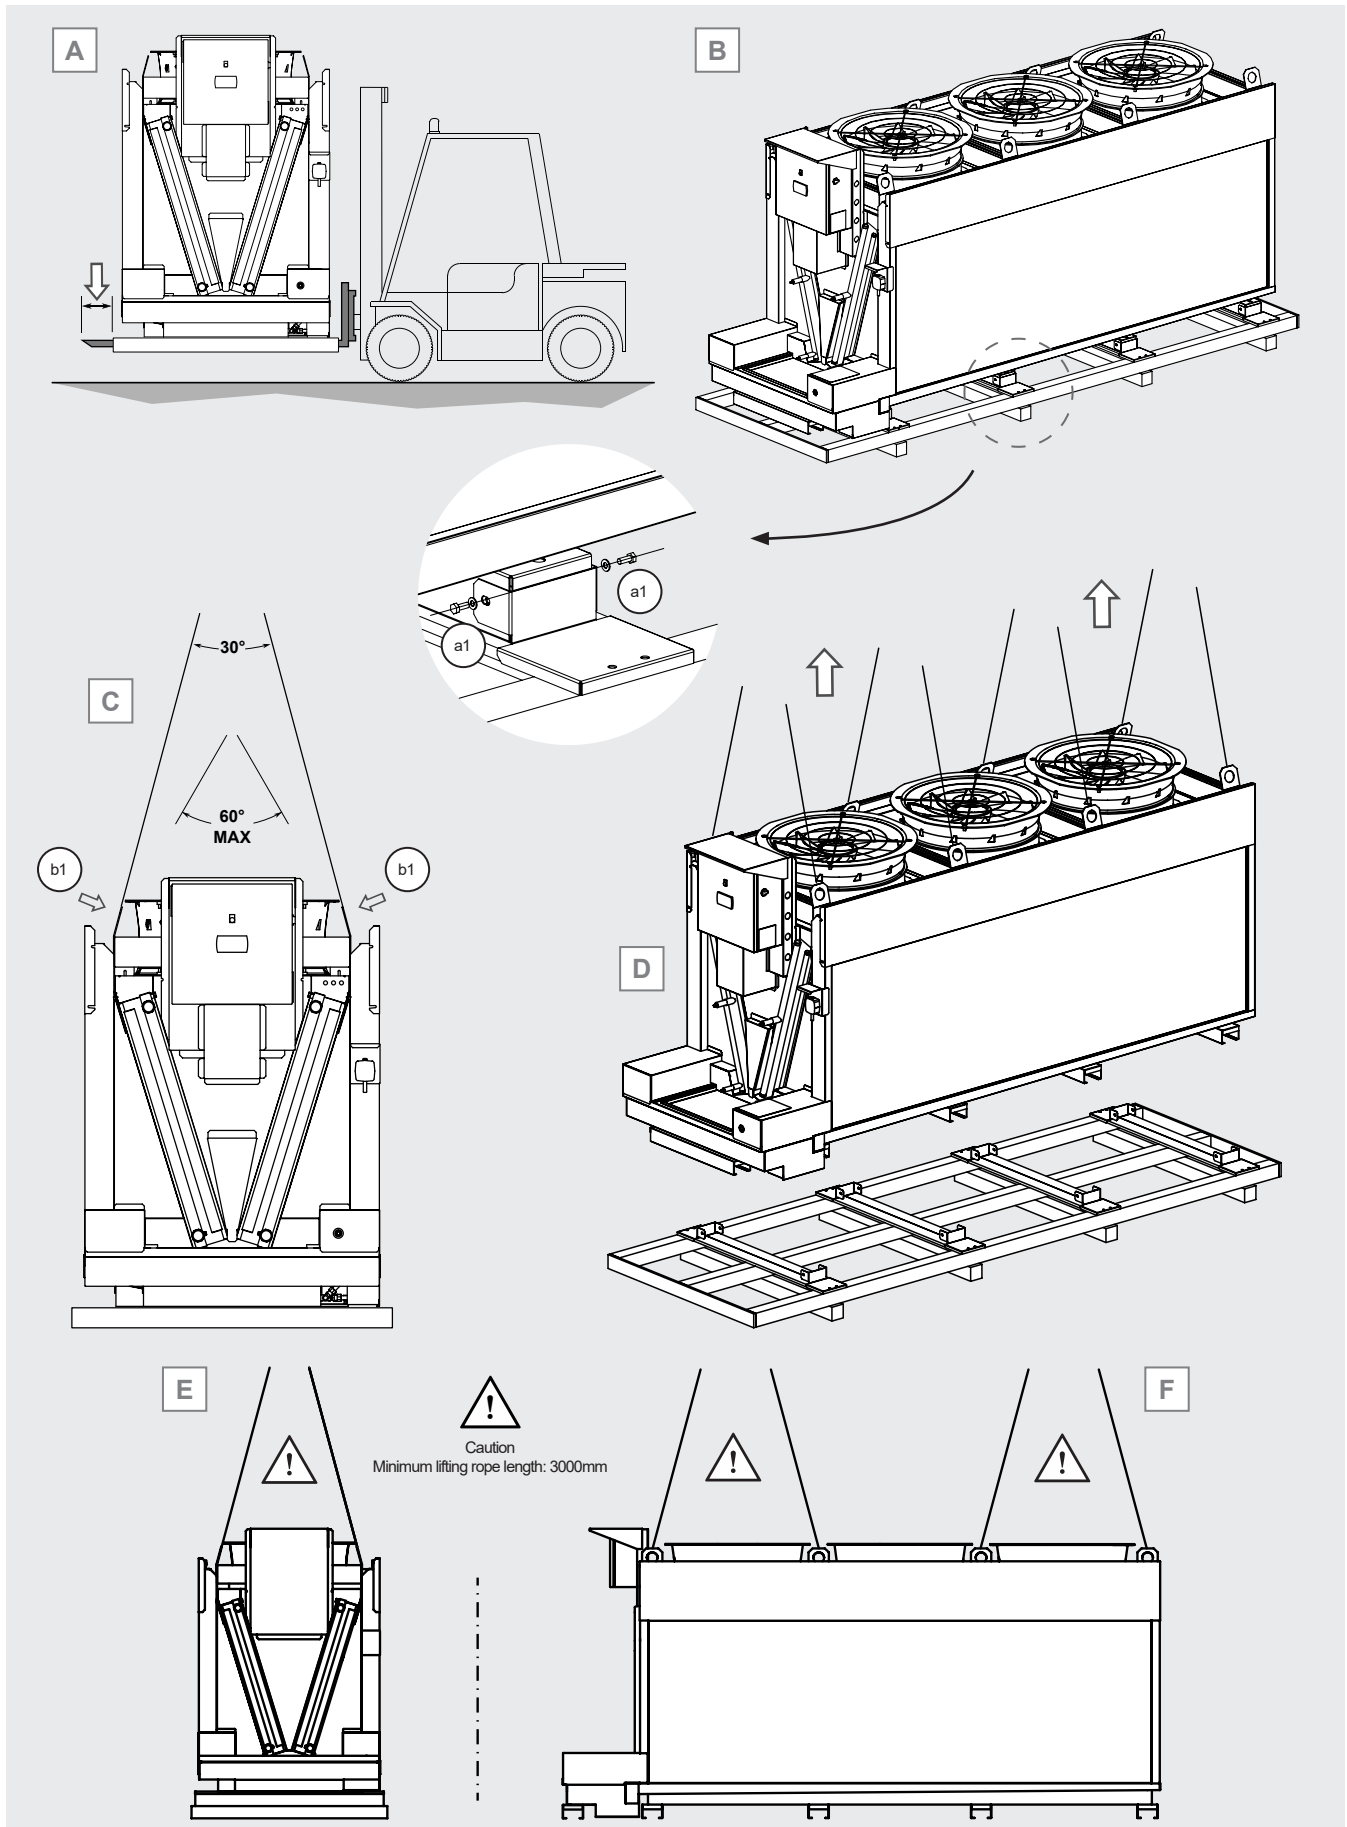

Figure 5
5.2 For loading and unloading operations from the transport vehicle using a forklift truck, the lifting brackets must be longer than the depth of the packaging and/or model, see Figure 5 A.
5.3 For loading and unloading operations from the transport vehicle using a crane or overhead crane, the equipment must be attached to the lifting points as specified in Table 2. Refer to Figure 5 C. Note: to facilitate loading and unloading operations only, it is permissible to use just 4 lifting points.
5.4 For pallet removal prior to model installation, unscrew the screws (a1) that secure the model's support brackets to the transport pallet, see Figure 5 B.
5.6.1 attach the crane or overhead crane to the lifting points (b1), see Figure 5 C;
5.6.2 lift the model and place it in its final location. Use all lifting points. See Figure 5 D.
For loading and unloading the unit from the transport vehicle and for handling operations, lifting slings and spreader beams must be used. Spreader beams may be applied either longitudinally or transversely; refer to Figure 5 E and F.